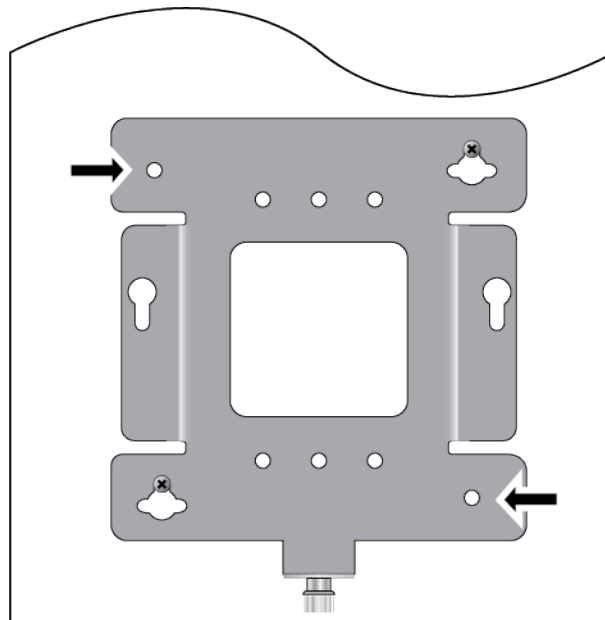

Figure 20. Pre-Drill Holes on Mounting Bracket
8. To secure the mounting bracket, pre-drill holes through the two bracket mounting holes opposite the key-hole slots. See Figure 20.